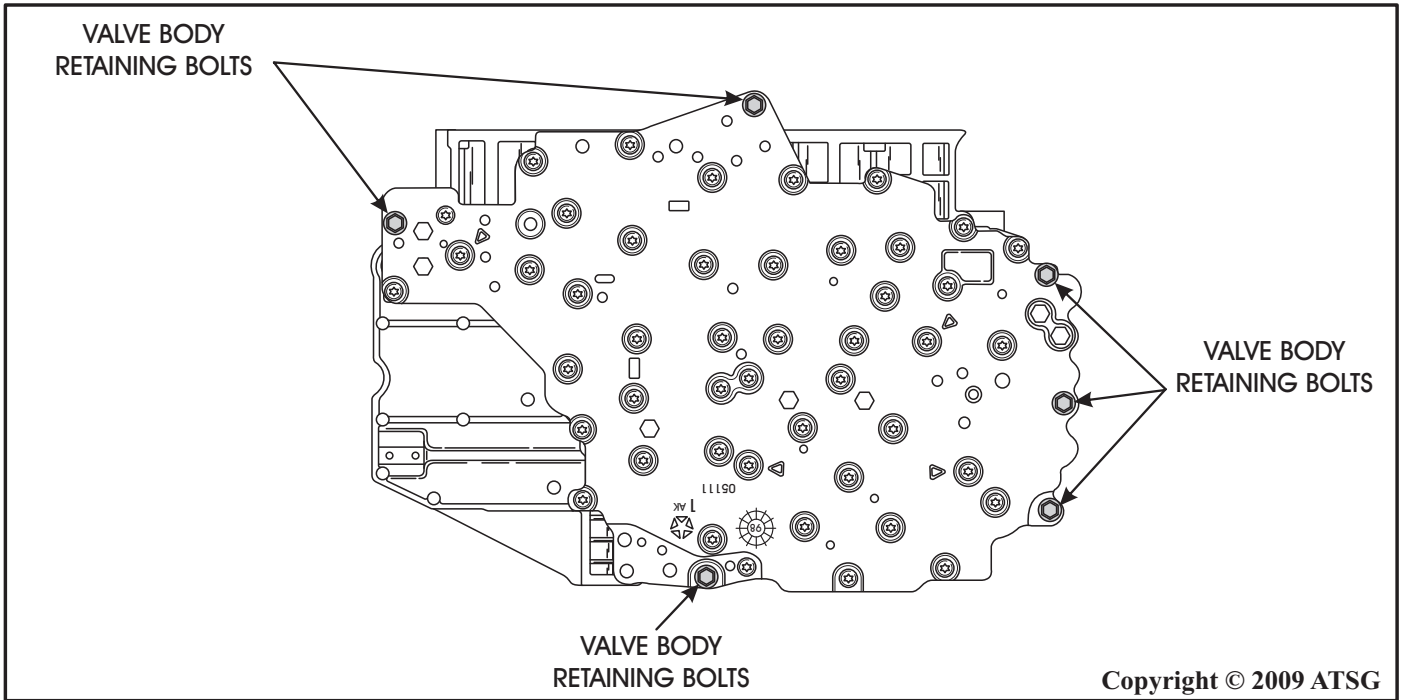

Figure 127
54. Use the illustration in Figure 127 to identify the exact location of the valve body bolts.